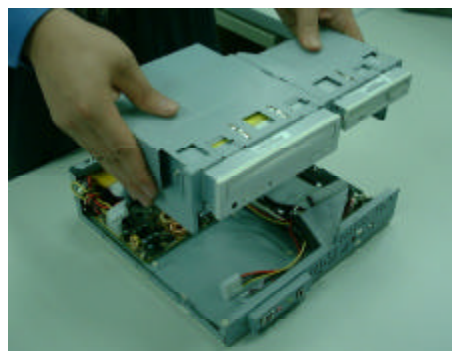

Figure 5-5
5. Lift off the bracket and carefully set it aside. (See Figure 5-5)